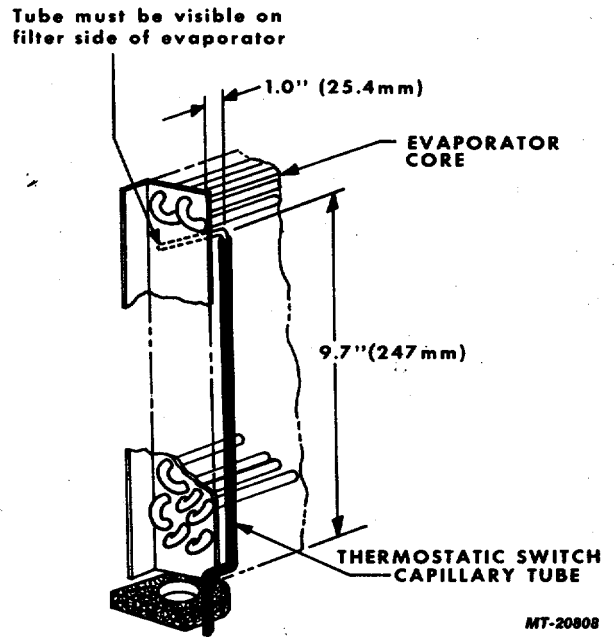

Fig. 59 Capillary Tube Location in Evaporator
2. Insert end of capillary tube into evaporator core at location shown in Figure 59. (Remove air filter seal strip and air filter to check position of end of capillary tube.)
The thermostatic temperature control switch is relatively trouble free; however, should it fail, it must be replaced. If the clutch remains engaged continually, check the sensing tube of the control switch to see that it has not been pulled out of the evaporator core. The sensing tube should be located in the evaporator core as shown in Figure 59.